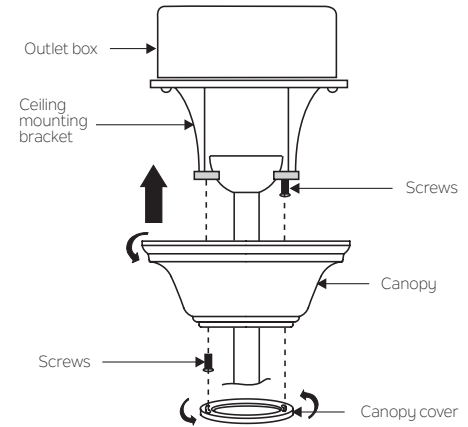

Fig. 13
**Step 2.** Slide the canopy up to the mounting bracket and place one of the key hole slots over the mounting screw on the mounting bracket. Rotate the canopy until the screw head locks in place at the narrow section of the key hole. See Figure 13.
**NOTE:** Adjust the canopy screws as necessary until the canopy and canopy cover are snug. (Fig. 13)